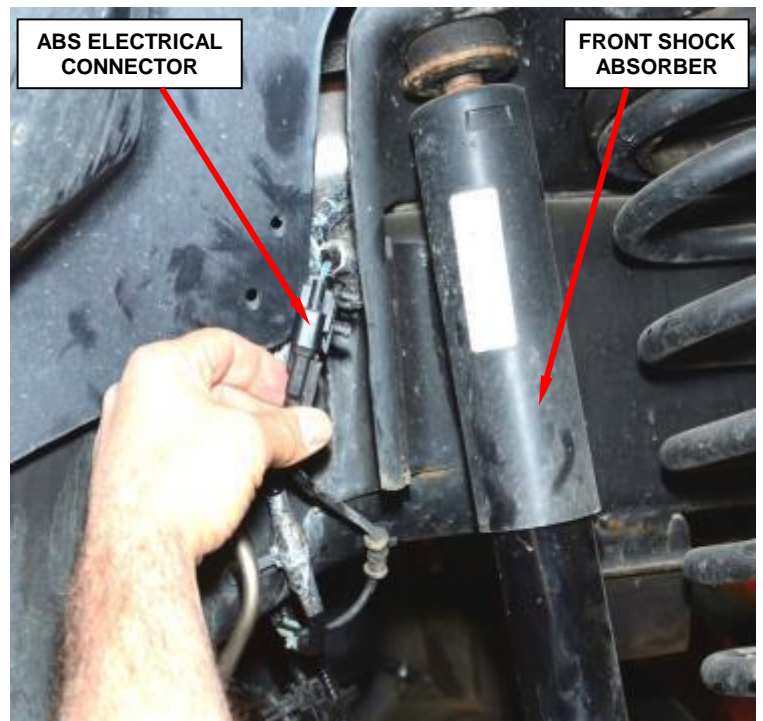

Figure 37 – ABS Wheel Speed Sensor Electrical Connector
8. Disconnect the Anti-Lock Brake System (ABS) wheel speed sensor electrical connector and unclip the ABS wire from brake hose (Figure 37).
16. Route the ABS speed sensor wire along the brake tube and then connect the Anti-Lock Brake System (ABS) wheel speed sensor electrical connector (Figure 37).